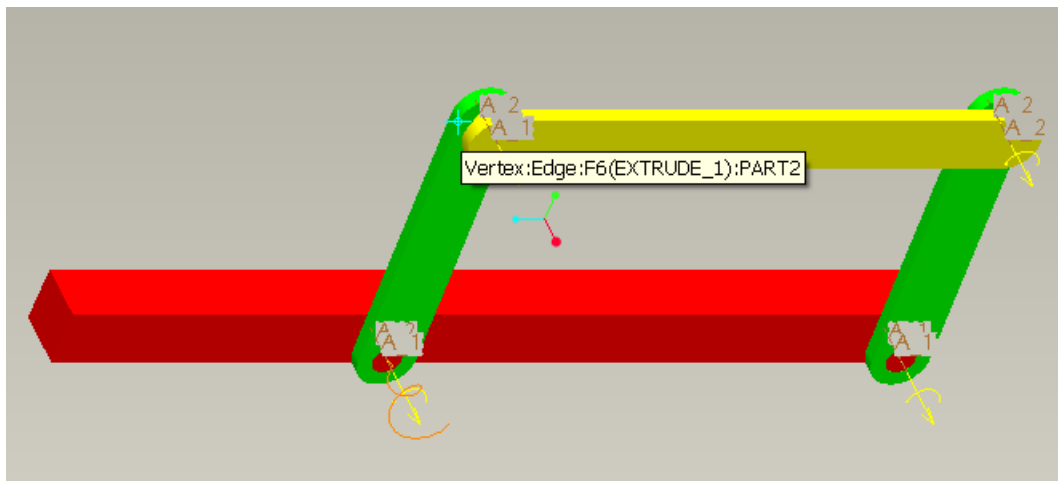

Figure 10
- g) Select a vertex on the part2 as shown in figure 10.